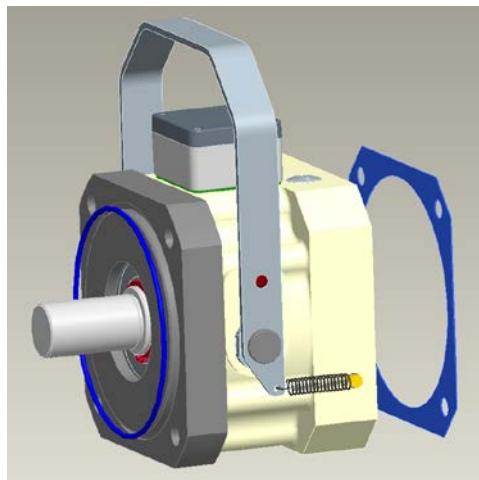

Fig. 8: 899.000.01 / 104 V / Ø Z = 130 / ØZ₁ = 130 / Ød = 24 / Ød₁ = 130 / 2 / 1 / 1
3) See Fig. 8 on page 12, 'Further Options'. Dimension sheet available on request